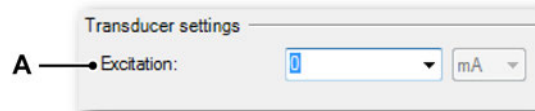

Figure 2.31: Transducer settings/Piezo IEPE
- Piezo IEPE (see Figure 2.31)
When a Piezo IEPE is selected, the following settings are shown (see Figure 2.31).